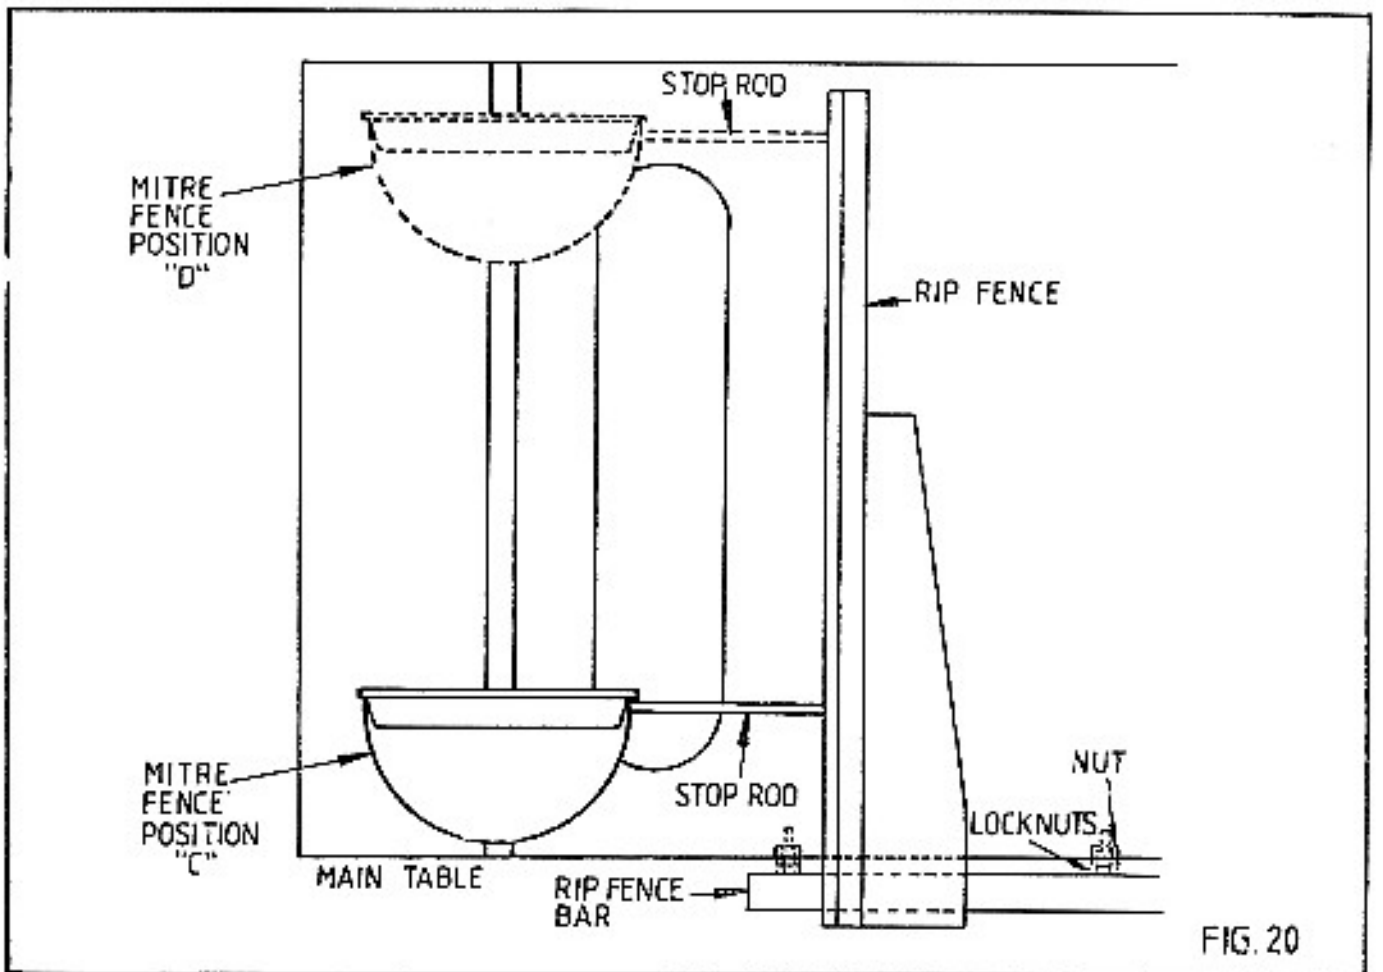

FIG. 20
- d) Position straight stop rod of mitre fence so that it touches rip fence plate in position "C" FIG.20.